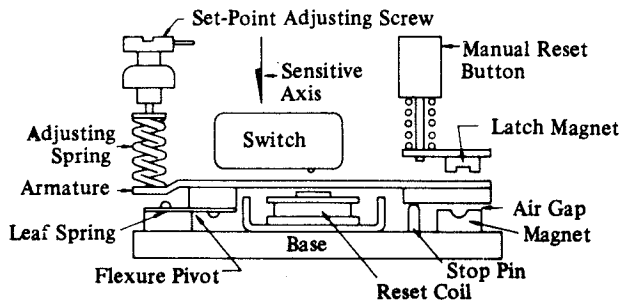

Figure 4-1.
The Vibraswitch, Model 366 (Refer to Figure 4-1), is sensitive to vibration in a direction (the sensitive axis) perpendicular to its mounting base. It contains a vibration detecting mechanism, which also functions as a "mechanical amplifier" to activate a snap-action switch when the selected level of vibration is exceeded and the detecting mechanism "trips."
With the equipment on which the Vibraswitch is mounted **not** operating, back off the Setpoint adjusting screw counterclockwise (CCW) two turns and press the reset button. Then turn the Setpoint adjusting screw slowly clockwise until actuation occurs (the armature assembly is against the latch magnet, Figure 4-1). **This is the zero vibration point**, or actuating point, with the machine not operating. A mark should be made with a lead pencil or other convenient means to permanently record this "zero vibration point." Subsequent measurements are made relative to this point.
Vibraswitches do not normally require any repair; however, listed below are some of the possible malfunctions that may occur and their recommended solutions (Ref. Figure 4-1).
a. Functional Test – (Ref. Figure 4-1)
2. **Broken leaf spring** (Ref. Figure 4-1)
Warning - when replacing parts in the field, do not remove or readjust the magnets, stop pin, leaf springs, armature or any parts associated with the armature. (See Figure 4-1.)